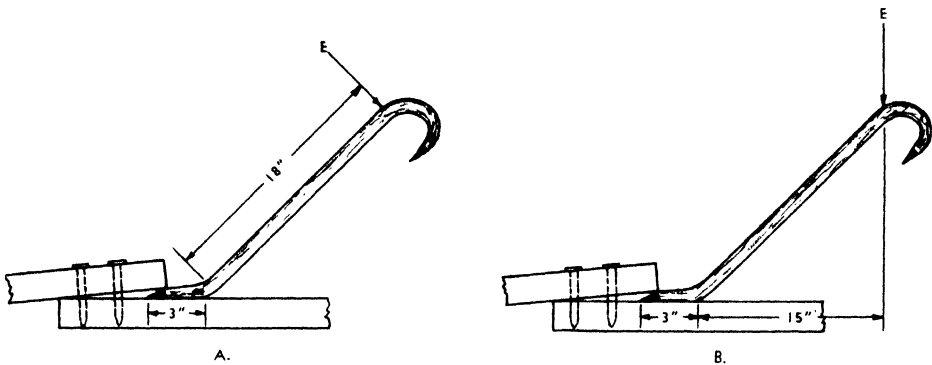

FIG. 69. WRECKING BAR AS LEVER.
5. If the nails in the boards, Fig. 69, offer a resistance of 300 lbs., what force is required to pull them in (a)? In (b)?
Why is the effort arm shorter in (b) Fig. 69? .....